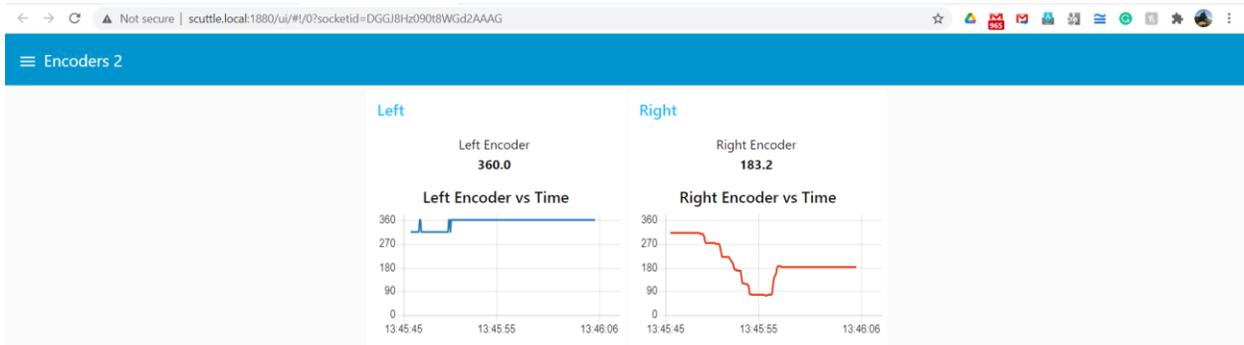

Figure 29
d. Now click the “Deploy” button in the upper right of NodeRed and then click the open dashboard button. It should open a new tab in your browser with two values which are each displayed on a respective chart with respect to time like Figure 29 below.